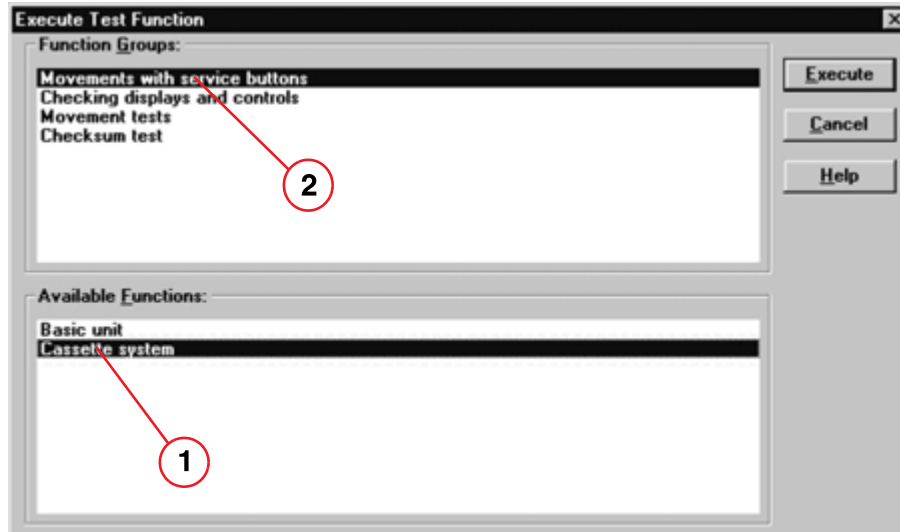

Fig. 69: Window "Execute Test Function"
- A window appears with the following menu items: **Movement with service buttons** (2/ Fig. 69 / p. 79) and **Cassette system** (1/ Fig. 69 / p. 79).
- A window appears with the following menu items: **Movement with service buttons** (2/ Fig. 69 / p. 79) and **Cassette system** (1/ Fig. 69 / p. 79)